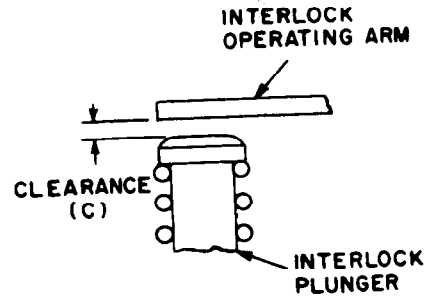

Figure 8. Contactor in its de-energized position.
The interlock should be positioned on its bracket so that with the contactor in its energized position, the interlock plunger (Figure 8) should not bottom. With the contactor in its de-energized position, there should be some clearance (C) between the interlock plunger and the interlock operating arm (Figure 8).